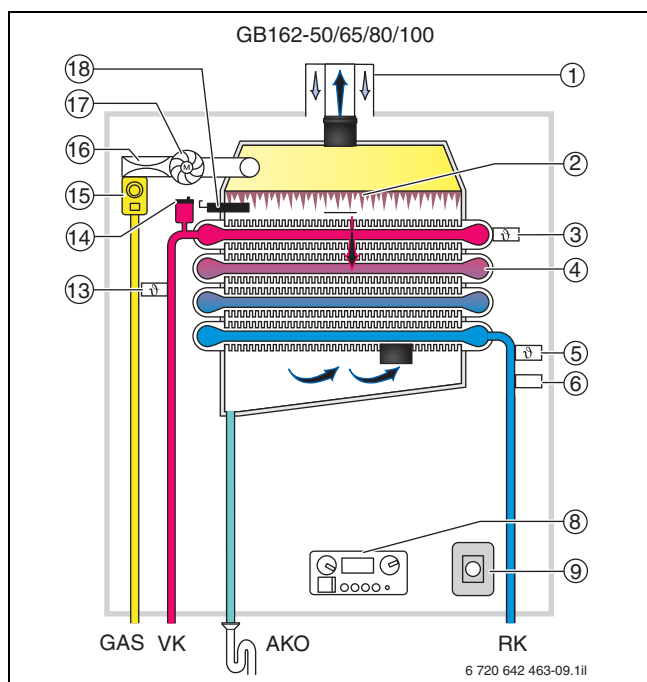

Fig. 9 Function scheme Logamax plus GB162-50/65/80/100
**Key to fig. 6 to fig. 9:**
Part of the ETA-plus system is a highly effective lamellar tube heat exchanger with ALUplus technology. It features an extremely large surface area enabling optimum heat transfer (→ fig. 6 to fig. 9, pos. 4).
In addition, the Logamax plus GB162 gas condensing boilers are equipped with a fully pre-mixing ceramic linear radiant burner that modulates its output between 17 % and 100 %. It is fitted as a downdraught burner above the lamellar tubes (→ fig. 6 to fig. 9, pos. 2).
In contrast to conventional boilers with electric spark ignition or a pilot flame, the Logamax plus GB162 gas condensing boilers operate with an incandescent ignition electrode (→ fig. 6 to fig. 9, pos. 18).
Should the burner fail to ignite or the flame go out, the universal burner control unit UBA3.5 (→ fig. 6 to fig. 9, pos. 9) receives no flame signal from the ionisation electrode (→ fig. 6 to fig. 9, pos. 18). The UBA3.5 then immediately interrupts the gas supply to the gas valve, switches the burner off and issues a fault message.
The fan (→ fig. 6 to fig. 9, pos. 17) draws in the combustion air required for the combustion process. The positive combustion air pressure transports the flue gas created during combustion into the flue system.
For the Logamax plus GB162 gas condensing boilers, the KombiVENT gas:air unit comprises a fan, a gas valve and the venturi nozzle (→ fig. 6 to fig. 9, pos. 15 to pos. 17). It is mounted directly on the burner. Subject to the fan speed and the resulting air flow rate, a specific negative pressure is created inside the venturi nozzle. The required gas volume is metered through this negative pressure. The gas and combustion air are fully mixed inside the fan.